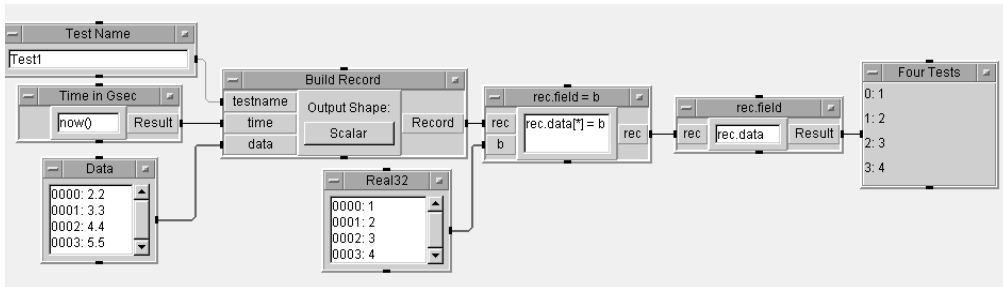

Figure 7.5. Using the Set Field object
16. Run your program. It should look like Figure 7.5.